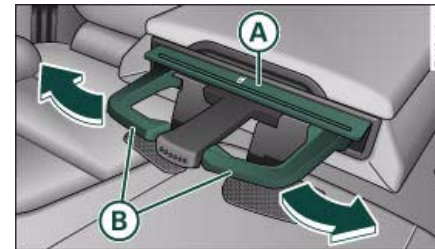

Fig. 94 Cup holder in rear armrest
- Press the symbol  (A) ⇒ fig. 94.